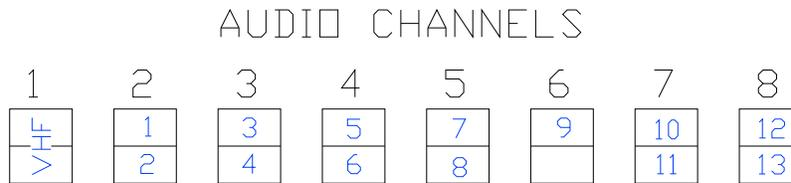

Figure 9-22 - Sample Audio Module Connections for Ship Example 2
Note in *Figure 9-22 - Sample Audio Module Connections for Ship Example 2* below that Mics 1 and 2 are connected to Channel 2, Mics 3 and 4 are connected to Channel 3, and Mics 5 and 6 are connected to Channel 4, Mics 7 and 8 are connected to Channel 5, and Mic 9 is connected to the top input of Channel 6. The four (4) interior mics located in the engine room (10, 11, 12, and 13) are connected to Channels 7 and 8. Since the four (4) engine room mics are located in a separate section of the ship from the nine (9) Bridge mics, they are not placed on the same channel as the Bridge mics.